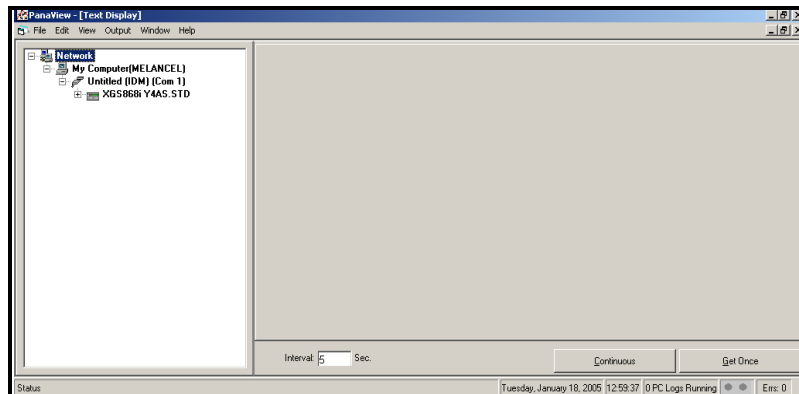

Figure 19: The Text Display Window
2. Using the *Window* menu, as described in the *PanaView User's Manual*, arrange the open windows in the desired format. For this discussion, Figure 19 shows the *Text Display* window in its maximized (full-screen) size.
5. Before actual data values can be displayed in the text pane, activate one of the following data collection modes (see Figure 19 on page 48):